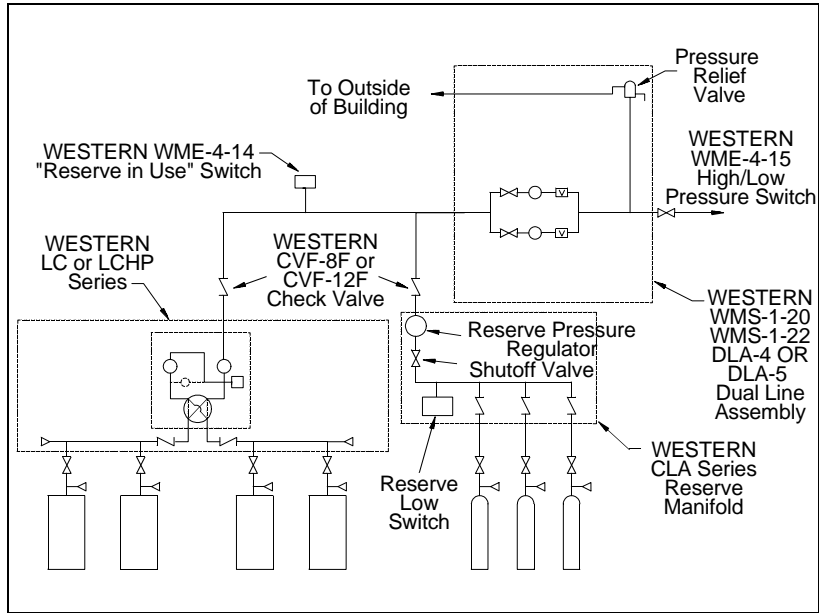

FIGURE 7
2. Install the check valves, reserve manifold, pressure switch and dual line assembly per the schematic shown in figure 7.